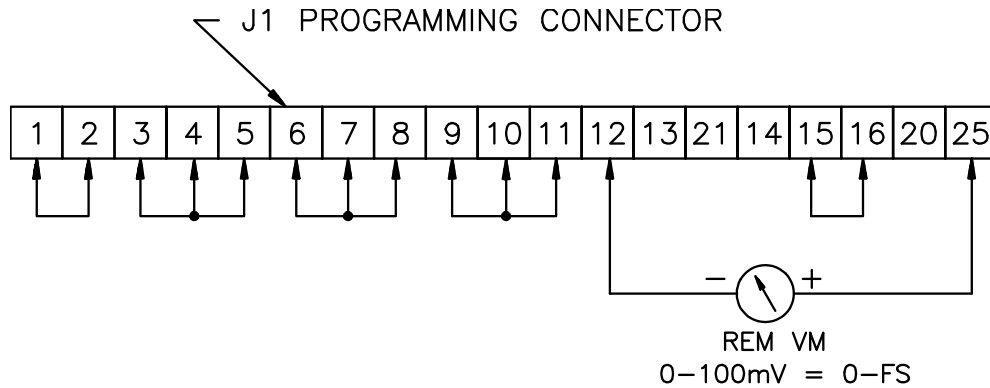

Figure 3.18: Remote Meter Across Shunt
- A) To measure load current, use a remote millivolt meter (100 mV full scale sensitivity), rated output current calibrated in amperes. Connect the meter across J1-12 (negative) and J1-25 (positive). The power supply generates 100 mV across J1 pins 12 and 25 at full rated output current. See Figure 3.18.